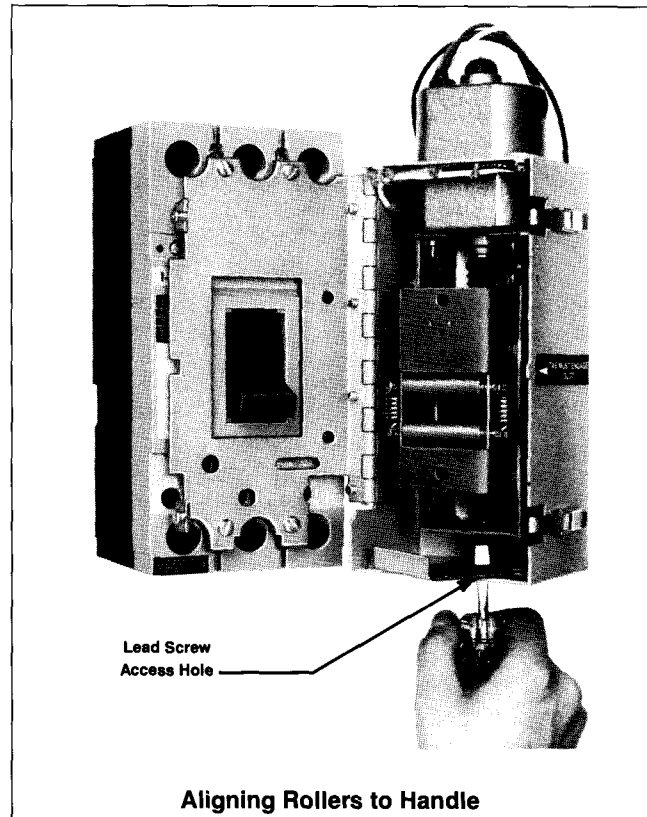

Figure 2
- Align the motor operator mechanism rollers and the circuit breaker handle by rotating the lead screw with a screwdriver (Figure 2). Lead screw access hole is at the bottom of the motor operator (Figure 2).